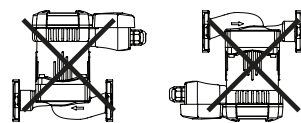

FIG. 2 Mounting the Armstrong compass
- 2 Install the pump with the motor shaft horizontal (see **FIG. 2**).